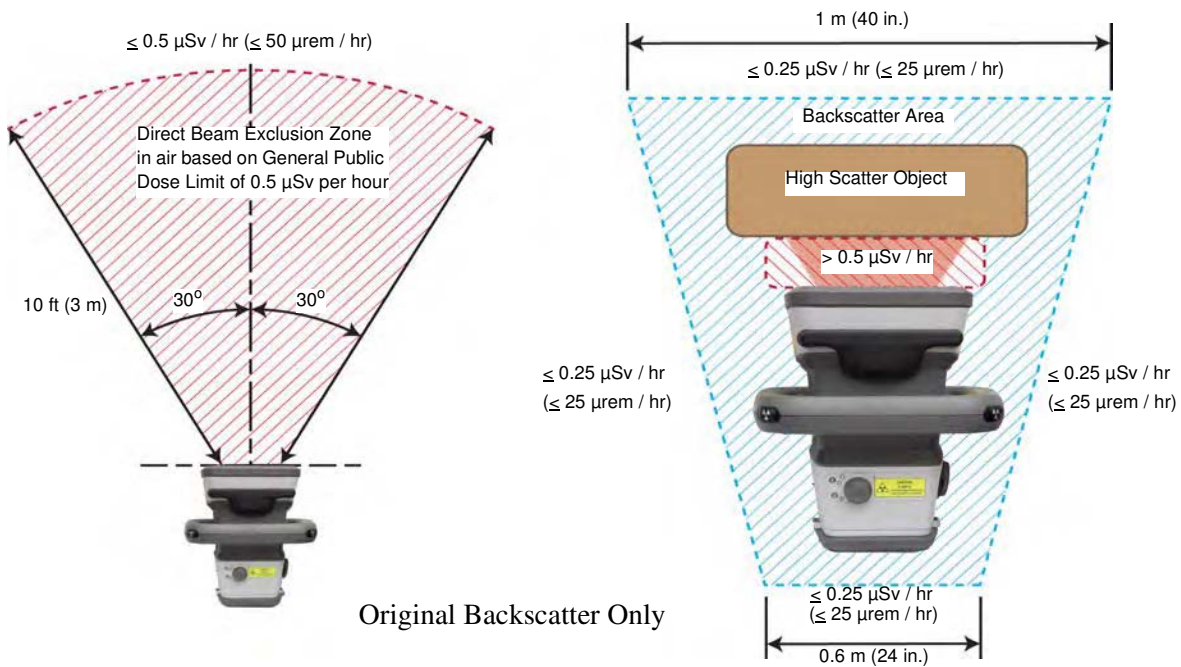

Figure 2-3: (Left) Radiation Dose Boundaries in Air, (right) Radiation Dose Boundaries While Scanning
- No living person, animal, or plant should be exposed to the direct X-ray beam emissions from the MINI Z system. In addition, the backscatter area should be avoided. For more information, refer to Figure 2-3.